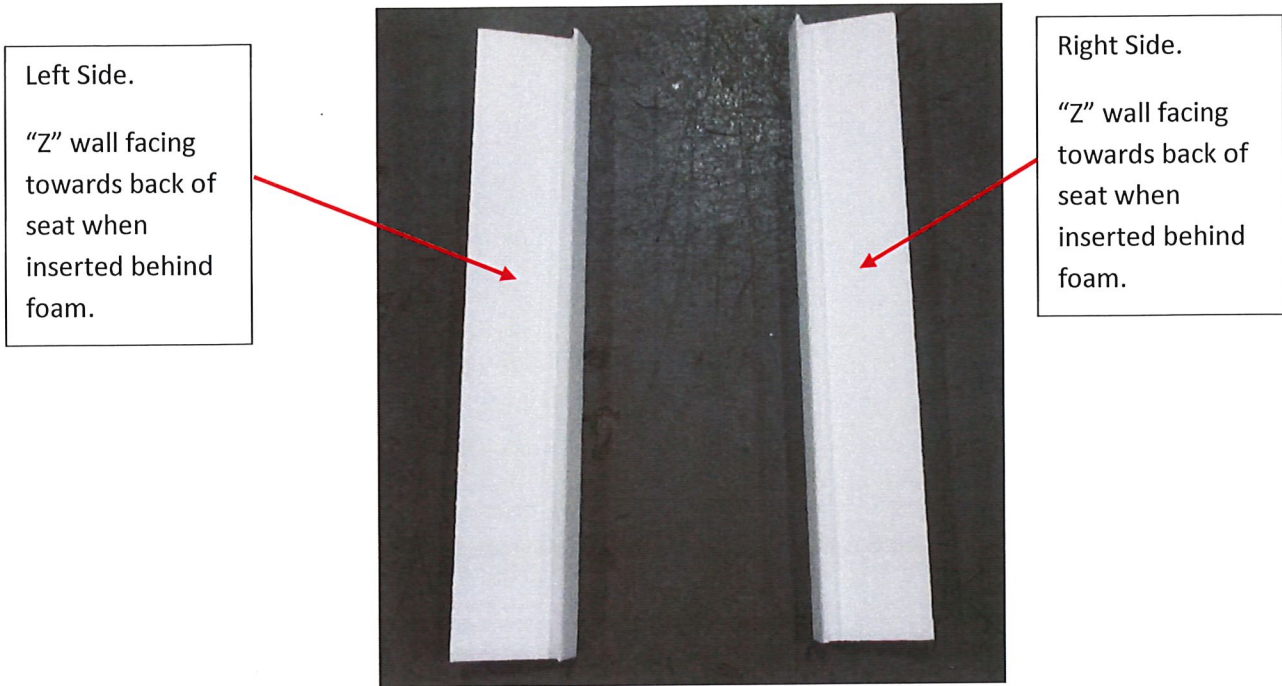

Figure 8: Styrene is Symmetrical but has a "Z" pattern as shown
13. The styrene has two mirroring parts. One for RIGHT and one for LEFT **Figure 8**